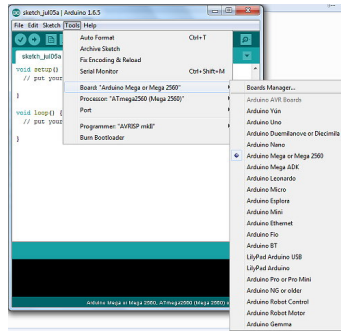
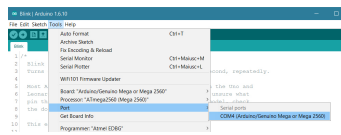

Figure 2: Arduino Mega Board
Figure 3: Choosing the Right Port
2. When you open the Arduino IDE, you'll need to select the Arduino Mega board under the "Tools" tab (Figure 2), and select the serial port corresponding to the arduino (Figure 3). (These may look slightly different depending on the port).